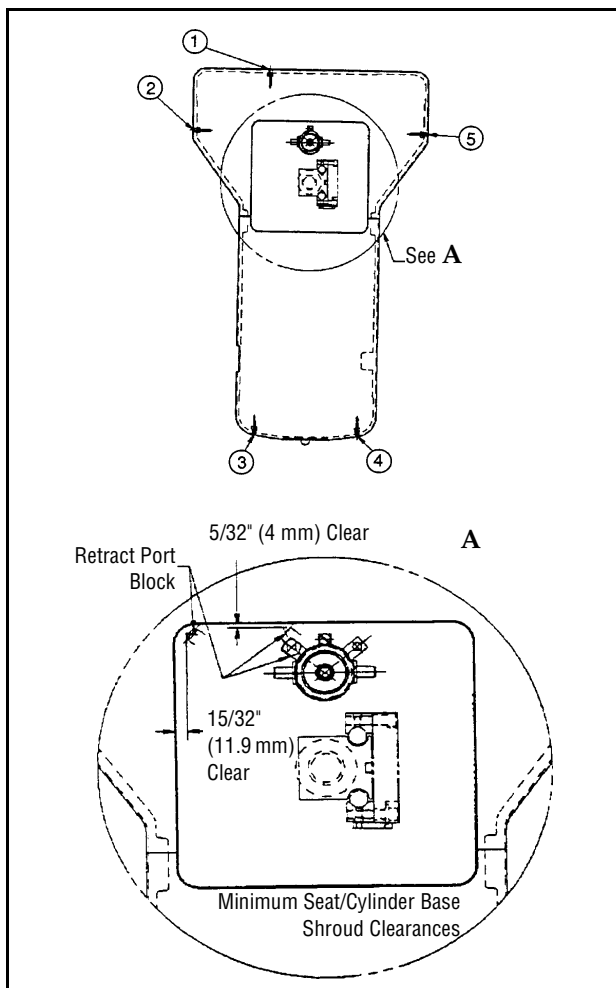

Figure 7-1. Bumper Positioning
1. If replacing bumpers, apply Loctite[®] 222 to threads and assemble bumpers into base casting as shown in Figure 7-1.
4. Lower tabletop until lower end of seat cylinder is just below upper edge of shroud. Minimum clearance between seat cylinder (retract port block) and shroud should be $15/32$ " (11.9 mm) on left side and $5/32$ " (4 mm) on foot end as shown in Figure 7-1. If either (or both) of these dimensions is less than minimum, increase clearance by increasing projection of bumpers.